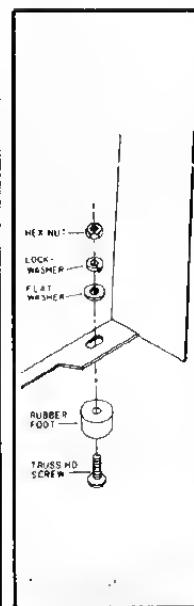

Fig. 3A
3. Four rubber feet are supplied with the stand and should be assembled to the stand as illustrated in Fig. 3A. **NOTE:** It is necessary to seat the truss head screw in the recess of the rubber foot by giving it a sharp blow with a hammer before assembling to the stand.